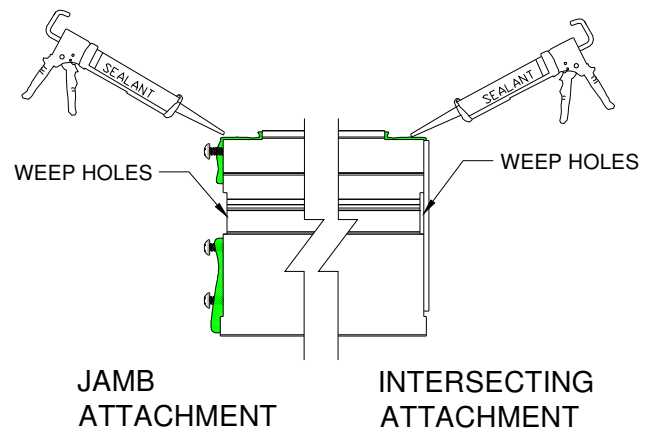

Figure 9:
6. Apply a compatible sealant to the slot, screw heads, TDL ends (Figure 9).